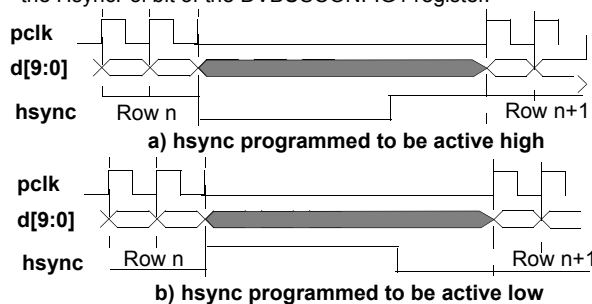

Figure 45. **hsync** in Pulse Mode
- **Pulse mode** should be used when the pixel clock, **pclk**, is programmed to operate in *data ready mode*. In pulse mode the **hsync** output pin will produce a pulse at the end of each row. The width of the pulse will be a minimum of four **pclk** cycles and its polarity can be programmed as shown in Figure 45. The **hsync** level is always synchronized to the active edge of **pclk**. The **hsync** pin is put into pulse mode by setting the *HsyncMode* bit of the DVBUSCONFIG1 register to a logic 1. The active level of the **hsync** pulse is programmed using the *HsyncPol* bit of the DVBUSCONFIG1 register.